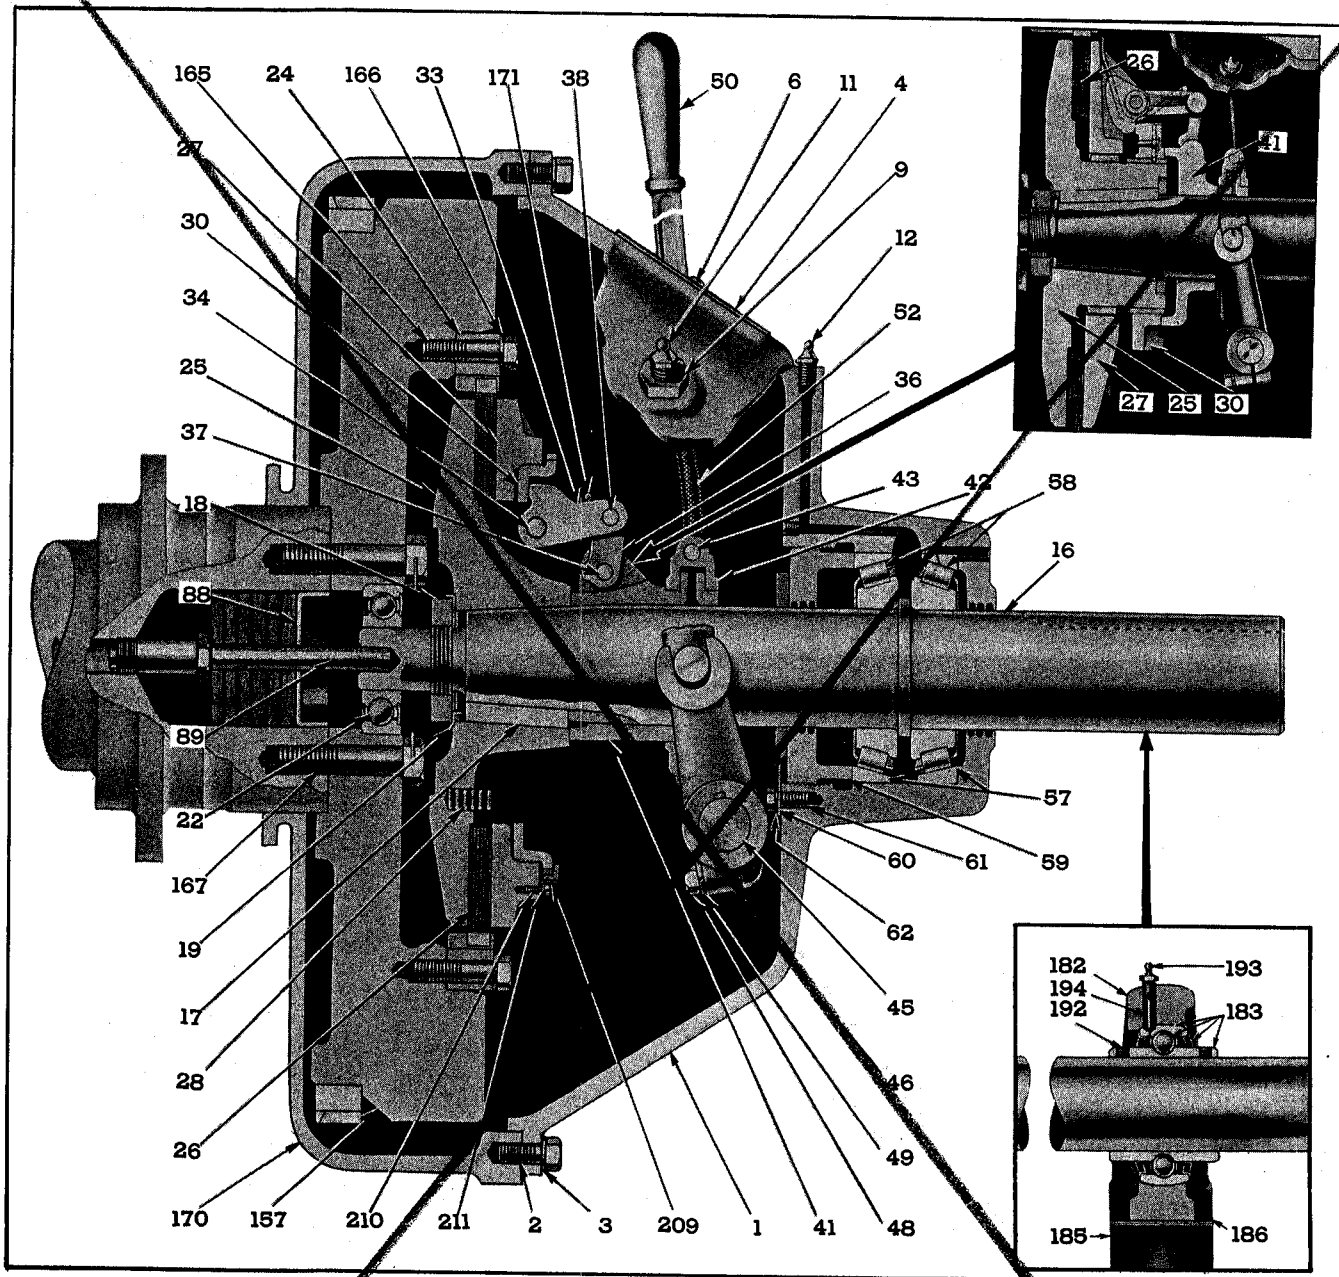

Fig. 1—G. M. Power Take-Off Assembly.
The direct drive power take-off unit illustrated in Fig. 1 is attached to the engine flywheel housing and consists of a single-plate, dry-disc clutch bolted to the engine flywheel (157) and a drive shaft (16), driven by the clutch and mounted in a single-row or a double row clutch pilot ball bearing (22) at the forward end and tapered roller bearings (58), mounted in the clutch housing (1) near the outer end. The pilot bearing also aligns the shaft at the forward end.
When the clutch is engaged, the release lever link (36), Fig. 1, is moved over center [pin (37) is forward of pin (38)] to the locked position, the clutch release collar (42) is loose on the sleeve (41), and hand shift lever (50) has free play fore and aft. When the clutch is properly adjusted, a heavy pressure is required at the extreme outer end of the lever to move the throw-out linkage to the "over center" or locked position.
2. Refer to Fig. 1 and remove inspection hole cover
(4) to expose the clutch adjusting ring (30).